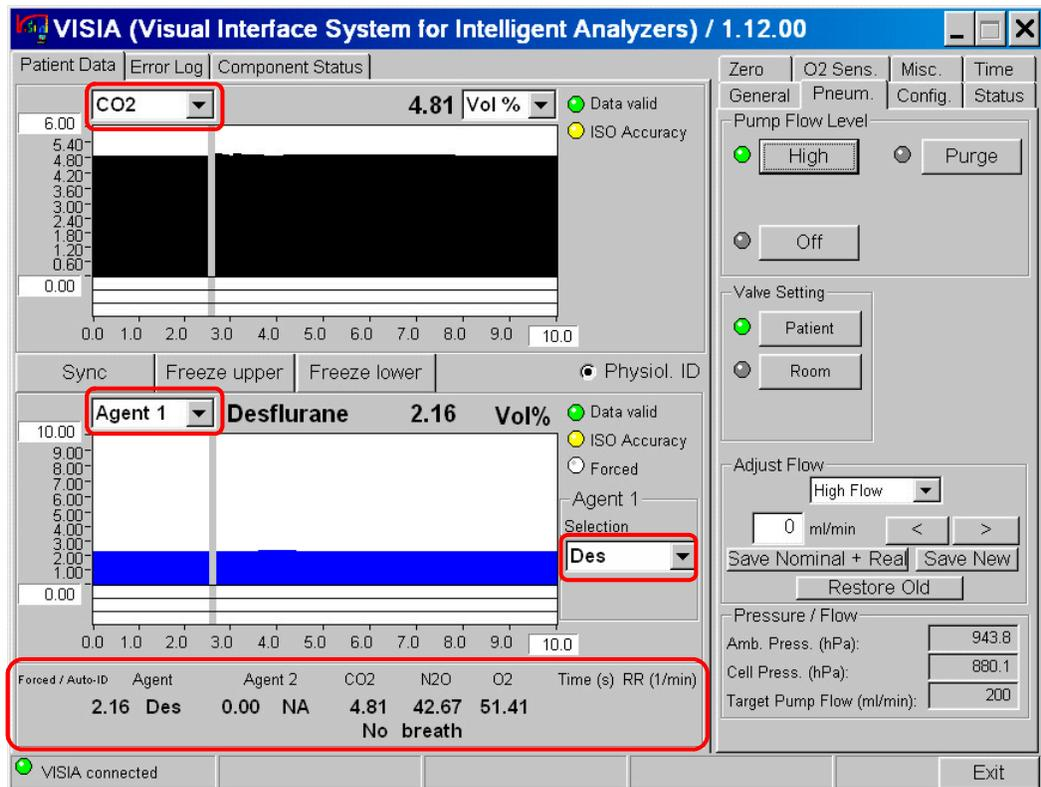

Figure 12 Patient Data Window during Gas Calibration Test
The gas analyzer should run for at least 6 minutes until the Data soft-LED in the Patient Data reads *Data Valid* before continuing with the following calibration procedures. This is to allow the module to reach ISO accuracy (see Figure 12). Use the M2211A Flow Regulator when performing the gas calibration test. Refer to the instruction sheet provided with the flow regulator for detailed instructions for use.
- 2 Select the Patient Data Tab in the VISIA tool so that you can see the waveforms (see Figure 12).
- 3 Set the upper Gas section to CO_2 (make sure the unit is set to Vol%) and the lower Gas section to *Agent 1* (see Figure 12).
- 9 Wait until the two gas concentration curves are completely flat as shown in Figure 12.